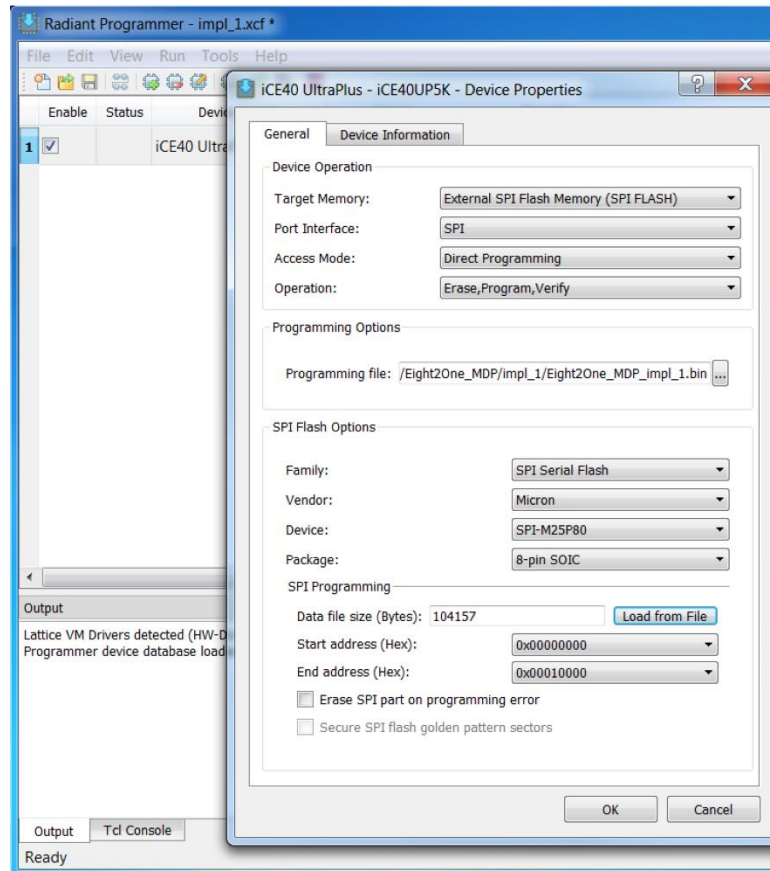

Figure 5.1. Device Properties
| Figure 5.1. Device Properties..... | 10 |
6. Right-click on the device and select **Device Properties**. Apply the settings as shown in Figure 5.1.
- **SPI Flash Options**: Select the Flash chip as shown in Figure 5.1.
| Programming the Bitstreams to the iCE40 UltraPlus MDP | Updated Device Properties image (Figure 5.1) and description. |